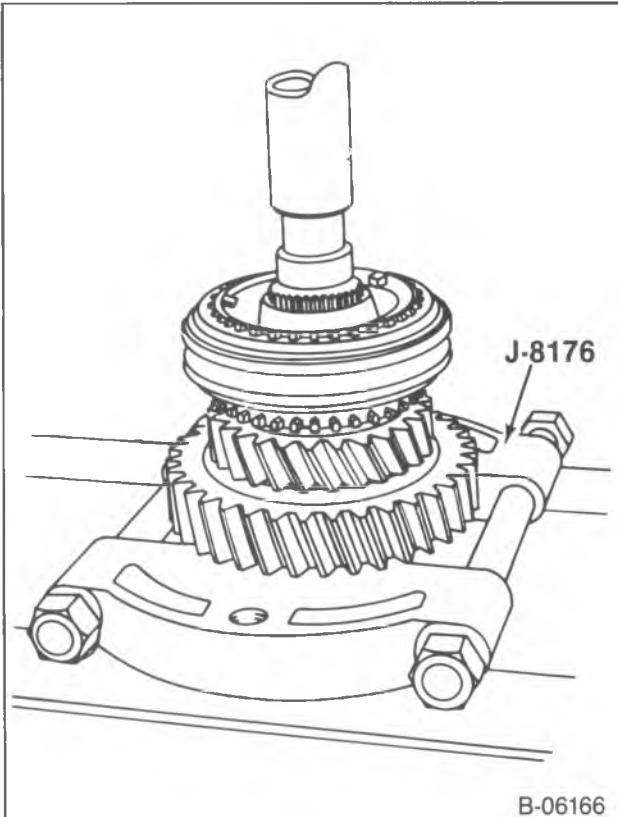

Figure 32—Removing the Mainshaft from the 2nd and 3rd Speed Gears
1. Thrust washer and the 1st speed gear (216).
2. Reverse driven gear (211), the synchronizer keys and springs.
3. 3-4 synchronizer snap ring (280).
4. 3-4 synchronizer, the 3rd speed gear (208), the 2nd speed gear (209), the bushing, and the thrust washer (243).
- Support the second speed gear and press the mainshaft out. (figure 32)